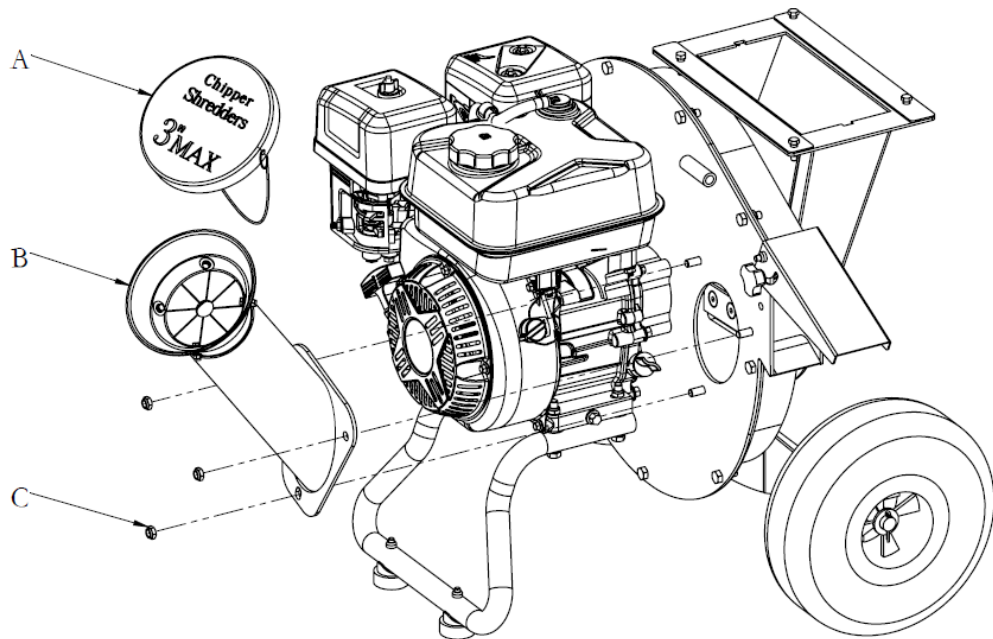

Figure 3
**Install Chipper Cone (See Figure 3)**
1. Position the chipper cone (B) over the three M8 thread studs protruding from the engine plate.
2. Attach the three M8 flange nuts (C) and tighten to secure the cone.
3. The rubber cone cover (A) can be used when using the vacuum function.